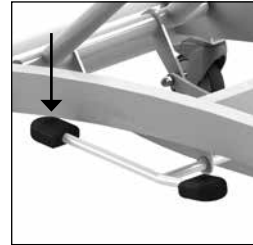

Figure 5 Moving upwards.
- The shower stretcher / dressing table moves gently and evenly upwards as a result of tapping the long part of the foot pedal (See figure 5).